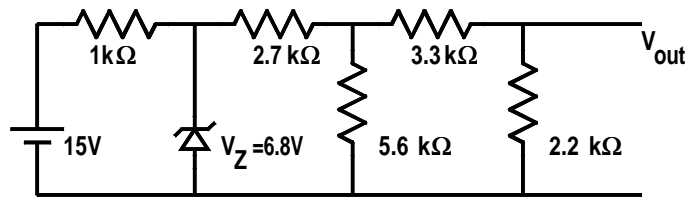

Figure 29.7: Problem 29.2.
29.2 Calculate the Thévenin equivalent for the circuit shown in Figure 29.7.